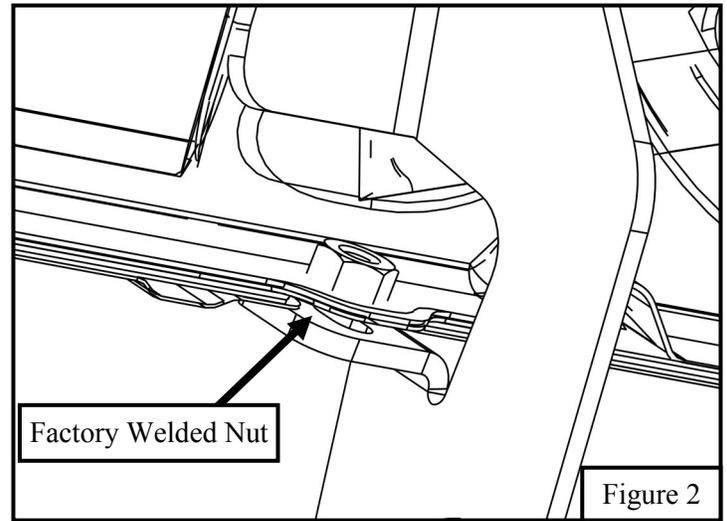

Figure 2
2. **For models with welded nuts:** At each bracket mounting location on the pinch weld there should either be a welded factory nut or a hole. If there is a factory welded nut present, then the M8 U-Nut Clip (Item 11) will not be used at that location. See **Figure 2** for the factory welded nut.